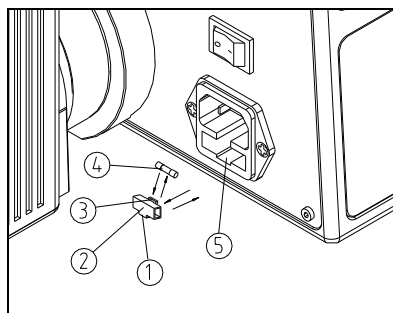

Fig. 26
- (1) Before replace fuse, please set the main power supply at "O" (OFF) and take off the plug.
- (2) Fasten the flute ① under the fuse holder ② by fingers, take out the fuse holder ② from socket ⑤. Then take off the fuse ④ from the above flute ③ and replace it with a new one. Then put it to the flute ③ and push the fuse holder ② into the socket ⑤, until a sound of "kada" is heard. (See Fig. 26)